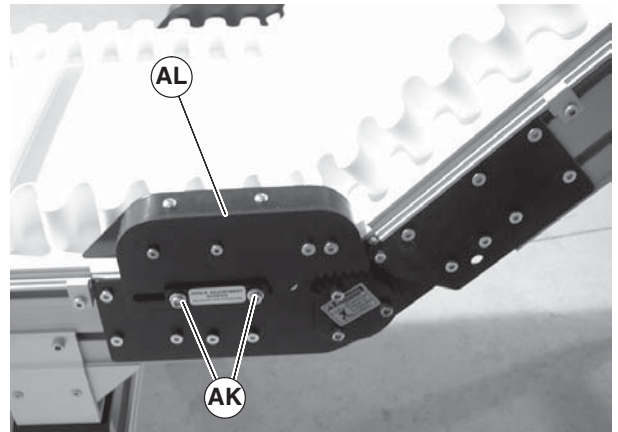

Figure 79
- Remove screws (Figure 79, item AK) and remove lower knuckle return roller assembly (AL) on both sides of knuckle, note the position of the meshing teeth.